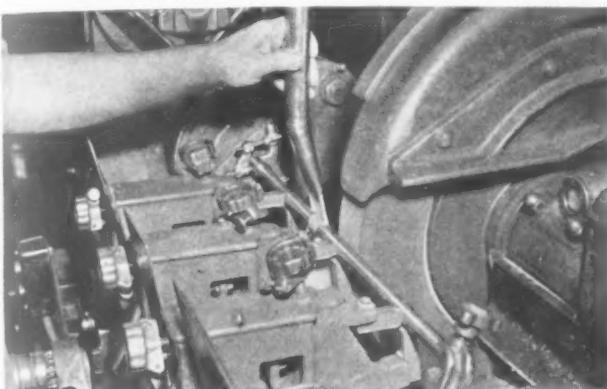

Fig. 3. Spot grind opposite each steadyrest.
- cates the work is running true. Fig. 3. Then bring the lower shoe of the steadyrest firmly against the work. With the other hand adjust the front shoe so that it rests lightly but snugly against the work.